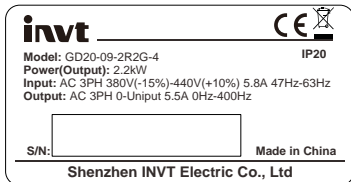

Figure 2-1 Product nameplate
**Note:** Figure 2-1 shows an example of the Goodrive20-09 product nameplate format. The CE or IP20 marking is put on the nameplate of a product based on the actual certification of the product.